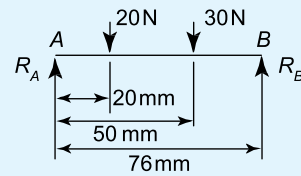

Figure 6.8
3. Determine the values of the forces acting at A and B for the force system shown in Figure 6.8.